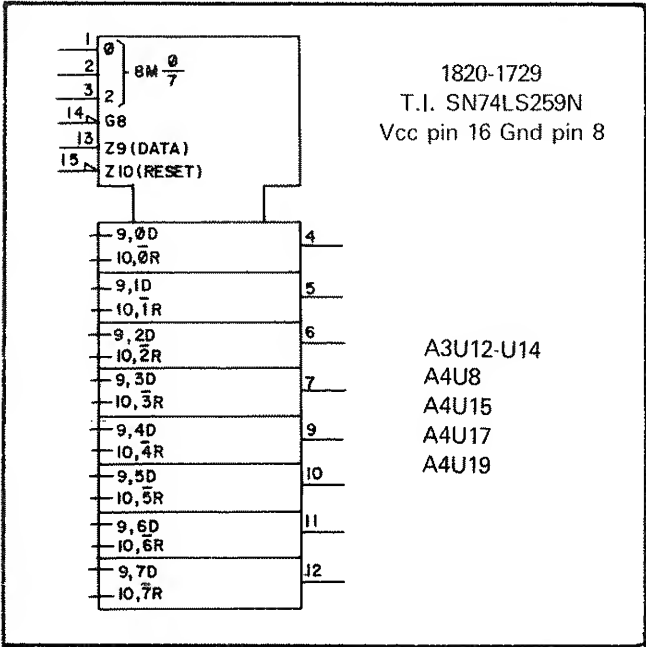

Figure B-20. Addressable Latch
Addressable Latch. Figure B-20 shows an eight-bit addressable latch. The mode inputs (M) determine which latch is loaded when the G input is active. Data enters via the Z9 input, and is internally connected to the addressed latch. For example, consider the first latch. 9,0D indicates that data (D) from Z9 is loaded when in mode 0. 10,0R indicates that reset (R) from Z10 resets the latch when not in mode 0.